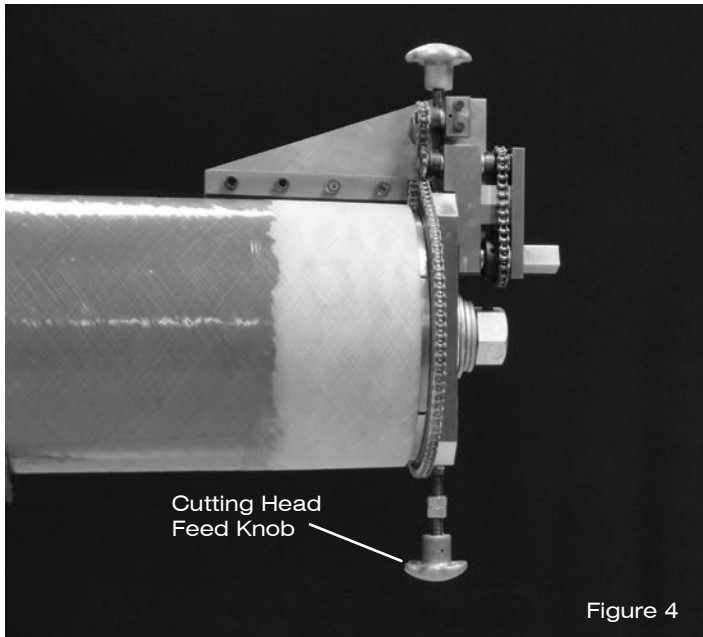

Figure 4
10. Tighten the cutting head feed knob until the blade makes light uniform contact with the factory taper. If the blade does not make uniform contact, check setting of blade. (See Fig. 4.)